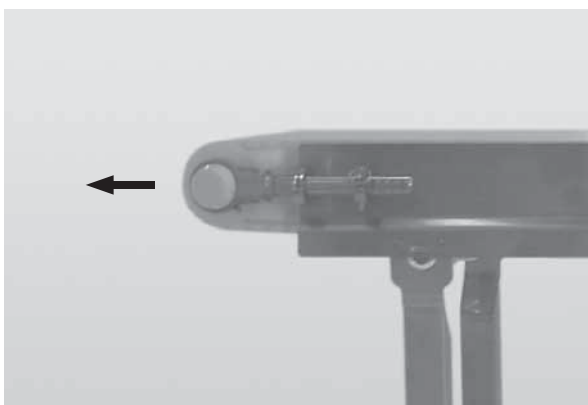

Figure 33
8. Extend the tension end to remove excess slack in the belt (**Figure 33**).